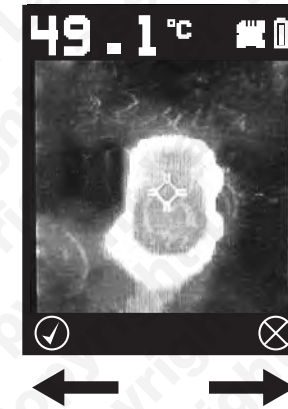

Fig. 7
- Release the trigger; to save the image toggle **left** to save, toggle **right** to discard (refer to Fig. 7).